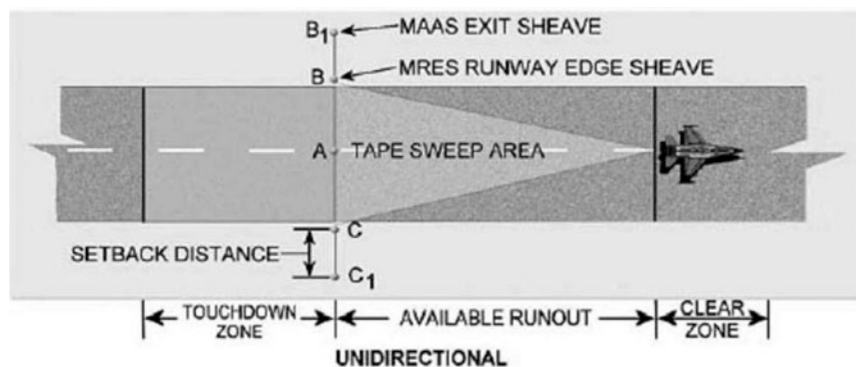

Figure 1-47. MRES siting requirements.
2. The triangle enclosed by Marks B and C (see fig. 1-47), as well as the point determined in Step A is the tape sweep area.
The installation site should be relatively level in the area selected for arresting gear installation. This eliminates the need for grading of the site. Refer to figure 1-47 for alignment requirements between the MRES and the MAAS. The slope and alignment requirements must be taken into account for the entire length of the setback. Where backfill is necessary to meet the slope requirements, earth shall be placed in layers and tamped to obtain 95 percent compaction at optimum moisture content.